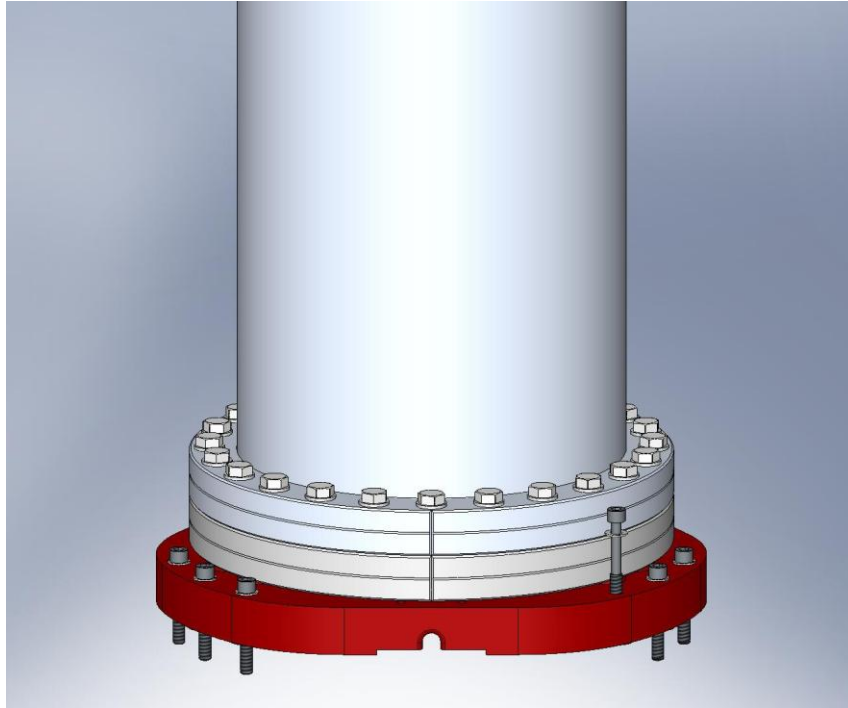

Figure 3.50. Add Captive Screws to Adapter Plate. These are used later, during installation of GS-13's into Stage 1.
- Torque all (3) **Stabilizer** screws to final spec.
- Thread in (9) **Captive Screws** through **Adapter Plate**, as shown in Figure 3.50.